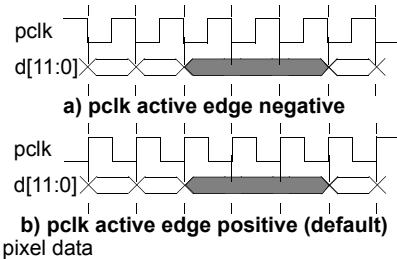

Figure 39. *pclk* in Free Running Mode
- In free running mode the pixel clock output pin, *pclk*, is always running with a fixed period. Pixel data appearing on the digital video bus $d[11:0]$ are synchronized to a specified active edge of the clock as shown in Figure 39.